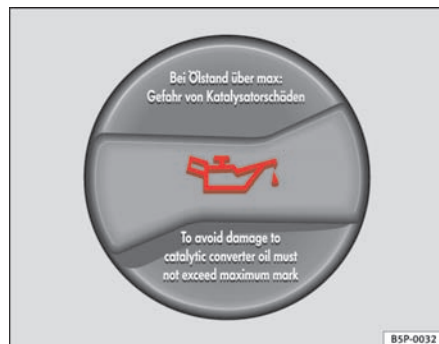

Fig. 143 In the engine compartment: Engine oil filler cap
- Unscrew cap from oil filler opening ⇒ **fig. 143**.